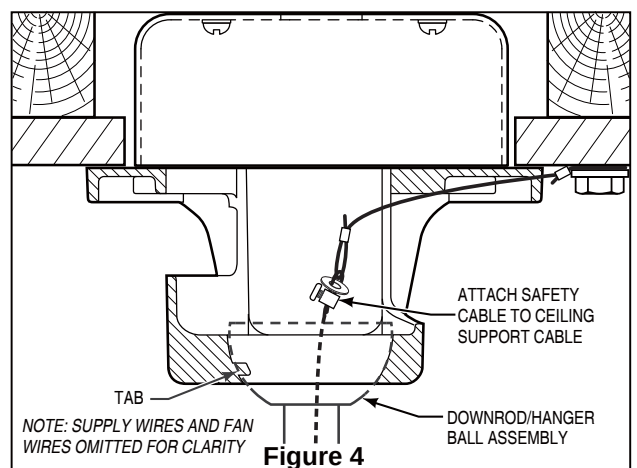

Figure 4
4. Slide downrod into the downrod support on top of the motor. Install the clevis pin by aligning the holes in the downrod support with holes in the downrod. Secure clevis pin with hairpin clip. Tighten the two set screws with nuts in the downrod support. (Figure 4)
- ☐ 4. Carefully lift the fan and seat the downrod/hanger ball assembly on the hanger bracket that was just attached to the outlet box. Be sure the groove in the ball is lined up with tab on the hanger bracket (Figure 4)
- ☐ 5. Attach the safety cable to ceiling support cable. Slide cable clamp and washer onto safety cable (from fan). Place the end of cable through the loop of ceiling support cable. Pull as much cable through loop as possible. Feed end of cable into clamp hole and firmly tighten screw (Figure 4).
- ☐ 4. Assemble the LED assembly to the light kit assembly use the removed screws in Step 3A. (Figure 4)
- ☐ **4. Remote Control Setting and Speed (RPM) Setting Process :** (Figure 4)